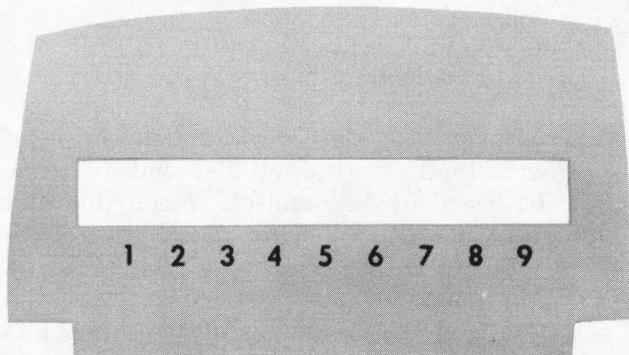

Fig. 4 — KS-19594, List 15 Adapter Plate
2.08 The KS-19594, List 15 adapter plate (Fig. 4) is installed over the viewing window of the dialer unit to mask all but the area between the index lines. Guide numbers are provided for indexing with the red line on the KS-19594, List 14 tape cartridge. The underside of the ends of the adapter plate is provided with a pressure sensitive adhesive, with peel-off protective paper covering, to facilitate field application directly over the window of a dialer cover.